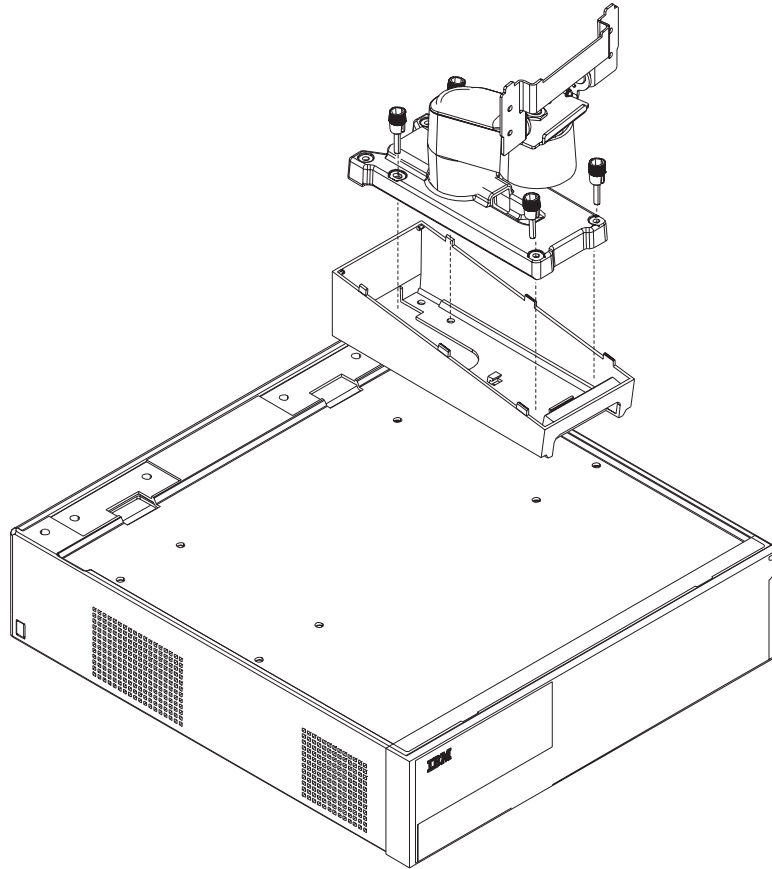

Figure 2-29. Securing the arm assembly to the SurePOS 720, 740, 780
4. Place the arm assembly on the system unit as shown in Figure 2-29 on page 2-25. Insert and tighten the four thumb screws as shown.